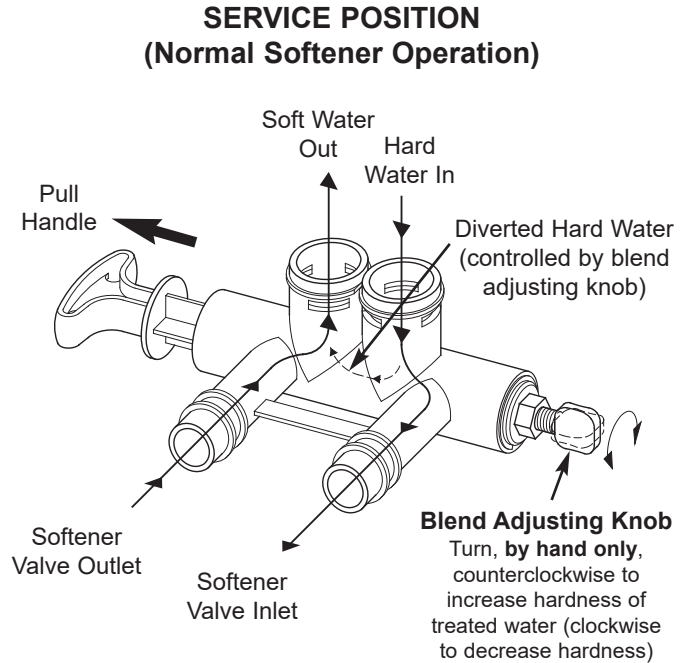

FIG. 41
The bypass blending valve works as a typical push-pull bypass valve, but has the added ability to finely adjust hardness of the treated water leaving the water softener. If slightly harder water is desired than is normally output by the water softener, this bypass blending valve can divert a small stream of hard water before it enters the water softener and blend it with the exiting softened water. The amount of water diverted is controlled by turning a blend adjusting knob on the end cap of the valve stem (See Figure 41).
1. When the bypass valve is in service position (normal softener operation), with handle pulled all the way out (See Figure 41), **increase hardness** of treated water by turning the blend adjusting knob **counterclockwise** up to 6 turns from the fully closed position. Before turning the knob, unlock it, if necessary, by turning the hex nut counterclockwise. While adjusting the knob, hold the bypass valve handle to prevent the stem from rotating.